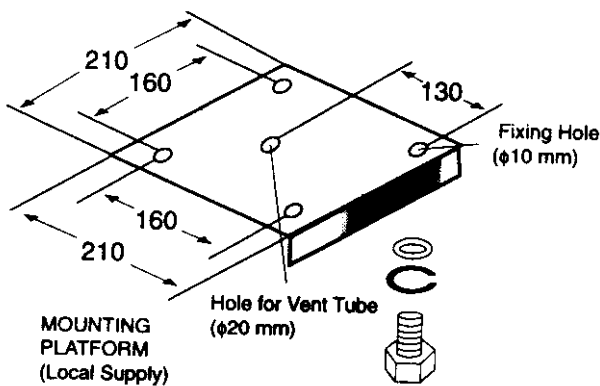

Figure 4 Dimensions of antenna platform
3. Construct a platform (wood, steel, or aluminum) of 5–10 mm in thickness whose dimensions are as shown in Figure 4. Fasten the platform to the mounting location. Find the cable entry on the antenna base. Next, position the base so the cable entrance faces the stern direction and the vent tube is extending downward through the hole for the vent tube.